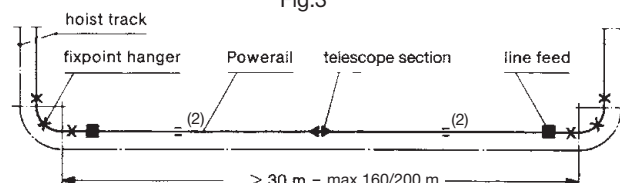

Fig.3
- If the powerail length between two curves is more than 20 m and the temperature fluctuates considerably (see Fig. 3).